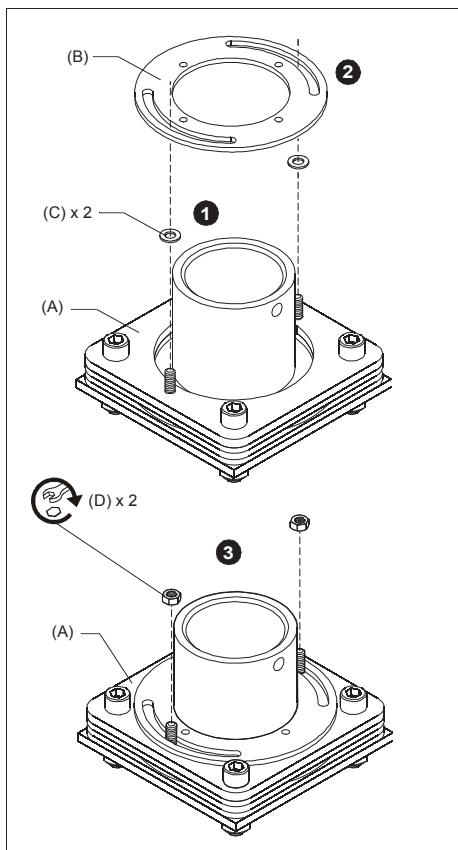

Figure 1
1. Place one Nylon washer (C) over each stud on swivel adapter (A). (See Figure 1)
2. Align slots in stop plate (B) with two threaded studs on swivel adapter (A). (See Figure 1)
3. Secure stop plate (B) to swivel adapter (A) using two lock nuts (D). (See Figure 1)